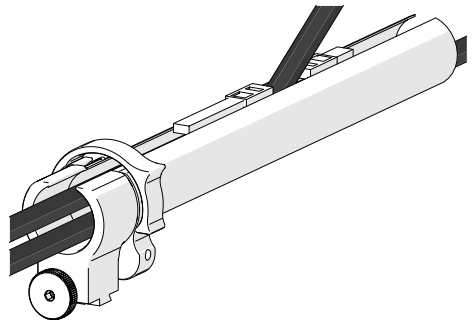

*Fig. 79* - Zip up to close
2. Follow the cable placement zipping the tube closed (*Fig. 79*).